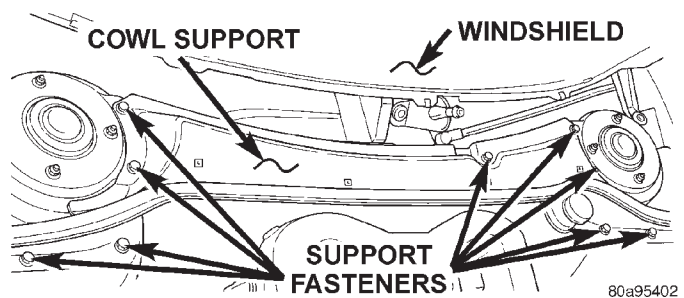

Fig. 28 Cowl Support
- Remove cowl support (Fig. 28).